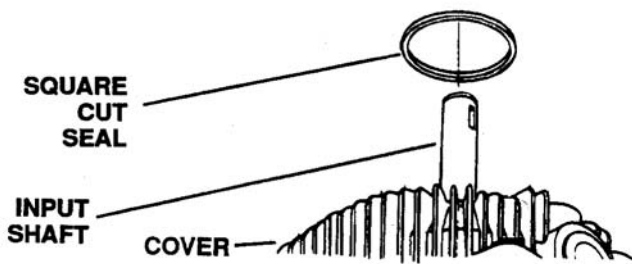

Figure 6-102. Removing Square Cut Seal
- c. Remove the square cut seal from the charge pump housing. See Figure 6-102.